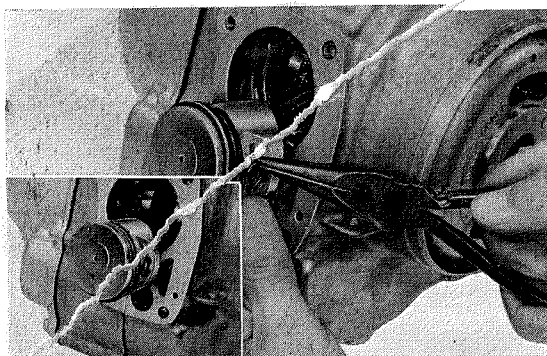

Fig. 37 Piston installation
2. Install the piston. (Fig. 37)